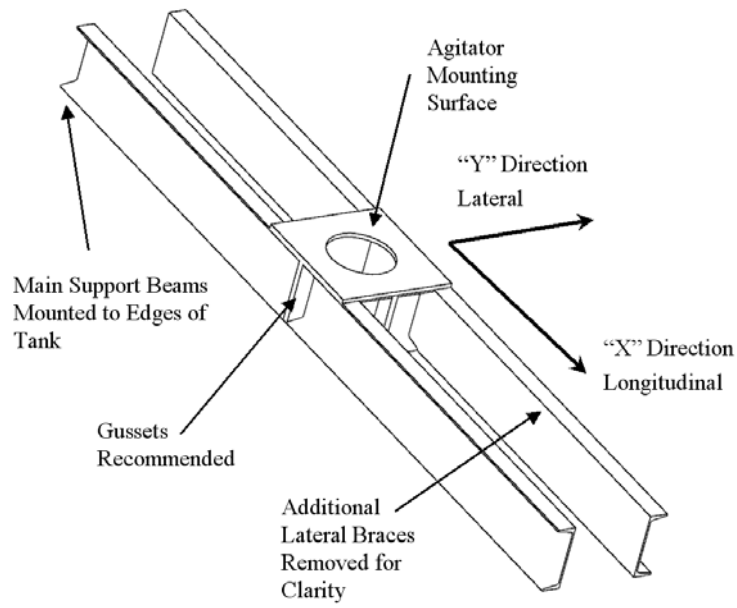

Figure 1. Main Beam / Gusset Orientation
Particular attention should be given to reducing the torsion of the support beams local to the agitator mounting in both the X and Y directions. Lateral beams adjacent to the agitator mount should be sized the same as the longitudinal spans. Gussets of sufficient thickness should be used on the beam structure under the agitator mounting plate to insure full load transfer from the agitator mount to the support structure. See Figure 1 on page 13.
6. Lift the agitator drive (Figure 1, page 32).